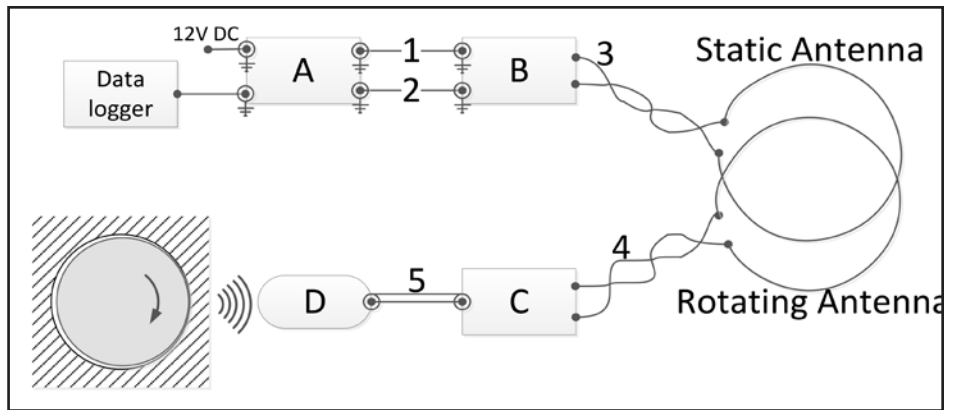

Figure 8 WDTU system overview.
The WDTU works on a principle similar to homodyne radar and, in some respects, to a near-field RFID (radio frequency identity device) (Ref. 23); the system is depicted in Figure 8. The transceiver (A) generates the carrier signal and transmits it through a coaxial cable (1) to the matching network (B) that is used to tune the characteristic impedance of the static antenna with which it is connected by a pair of wires (3). The static coil transmits this carrier wave to the rotating antenna, where it is picked up by a twisted pair of wires (4) and rectified and smoothed within the processing unit (C). This creates a DC voltage which is used to power an amplifier and filter stage that is connected by a cable (5) to the sensor (D). This is where it differs from RFID, as this sensor signal — after it has been filtered and amplified — is used to tune the resonant frequency of the rotating antenna using a varactor diode. This allows a continuous signal to be transmitted that is representative of the desired signal from the sensor.